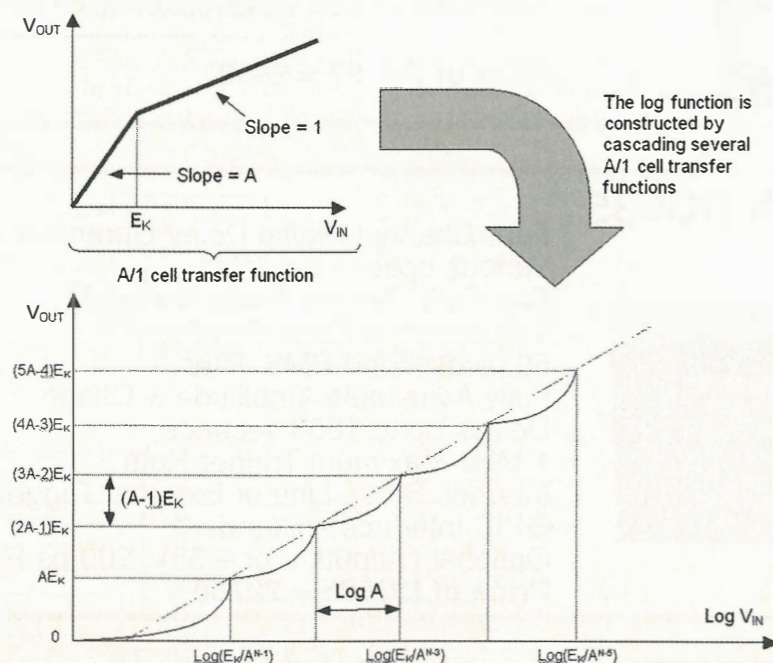

Figure 3: Constructing the log transfer functions from A/1 cells
is nearly 52,500GHz, which is enormous. The bad news is that even a small amount of noise will lead to output voltage, so signals below certain levels of the noise floor cannot be measured. The responsibility of the designer is to ensure that the noise baseline is below and not above the intercept point. The described logarithmic amplifier will use a cascade of non-linear gain stages. Each non-linear amplifier unit has a piece-wise-linear transfer function as is depicted in Figure 3. Often it is called A/1 cell. For small signals the gain is A, but after a certain point ( $E_K$ ) it drops to unity gain. For the classic (non-demodulating) log amplifier the same function is symmetrical and valid for both positive and negative input voltages. Usually the intercept voltage and the slope voltage can be expressed in terms of the parameter  $E_K$ .
As it is obvious from the second diagram in Figure 3, as the input of the first cell reaches the value of  $E_K/A^{N-1}$  the input to the  $N^{th}$  cell reaches the knee voltage  $E_K$  and the last ( $N^{th}$ ) stage transforms its gain from A to 1 (it does not contribute to the gain for further increase in input). As the input rises sequentially the stages in the log amplifier go from gain A to gain 1. For large input voltages the cascaded stages have no gain at all. So the log function is approximated in a piece-wise linear matter and the second diagram in Figure 3 illustrates this approximation. It should be mentioned that the X-axis has a log-scale, so the approximation is to a straight line. From the diagram we can derive the slope voltage parameter and the intercept voltage stated in (2)1.